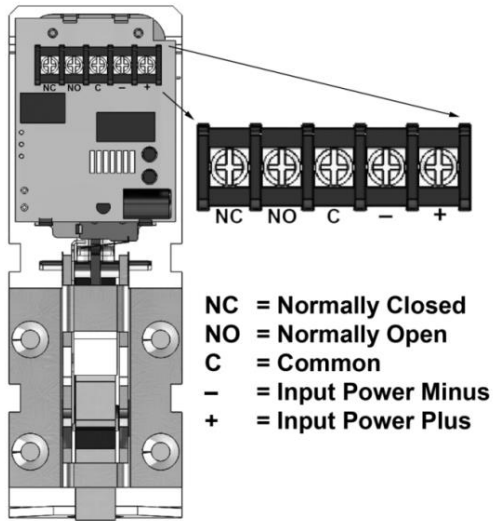
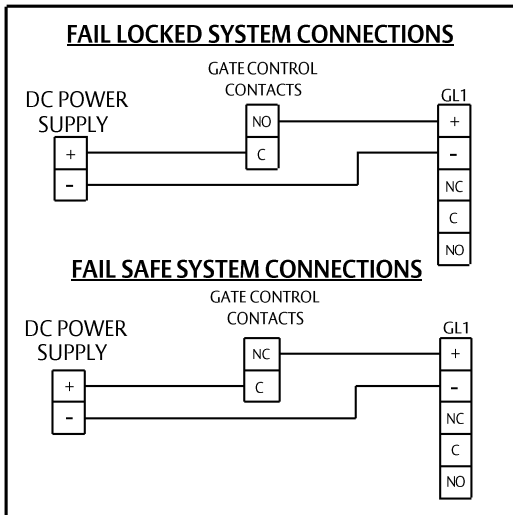

Figure 8. PC Board Terminal Block
Figure 9. System Connections
6. CONNECT wires to the terminal block on the PC board (see Figure 8, "PC Board Terminal Block," and Figure 9, "System Connections").